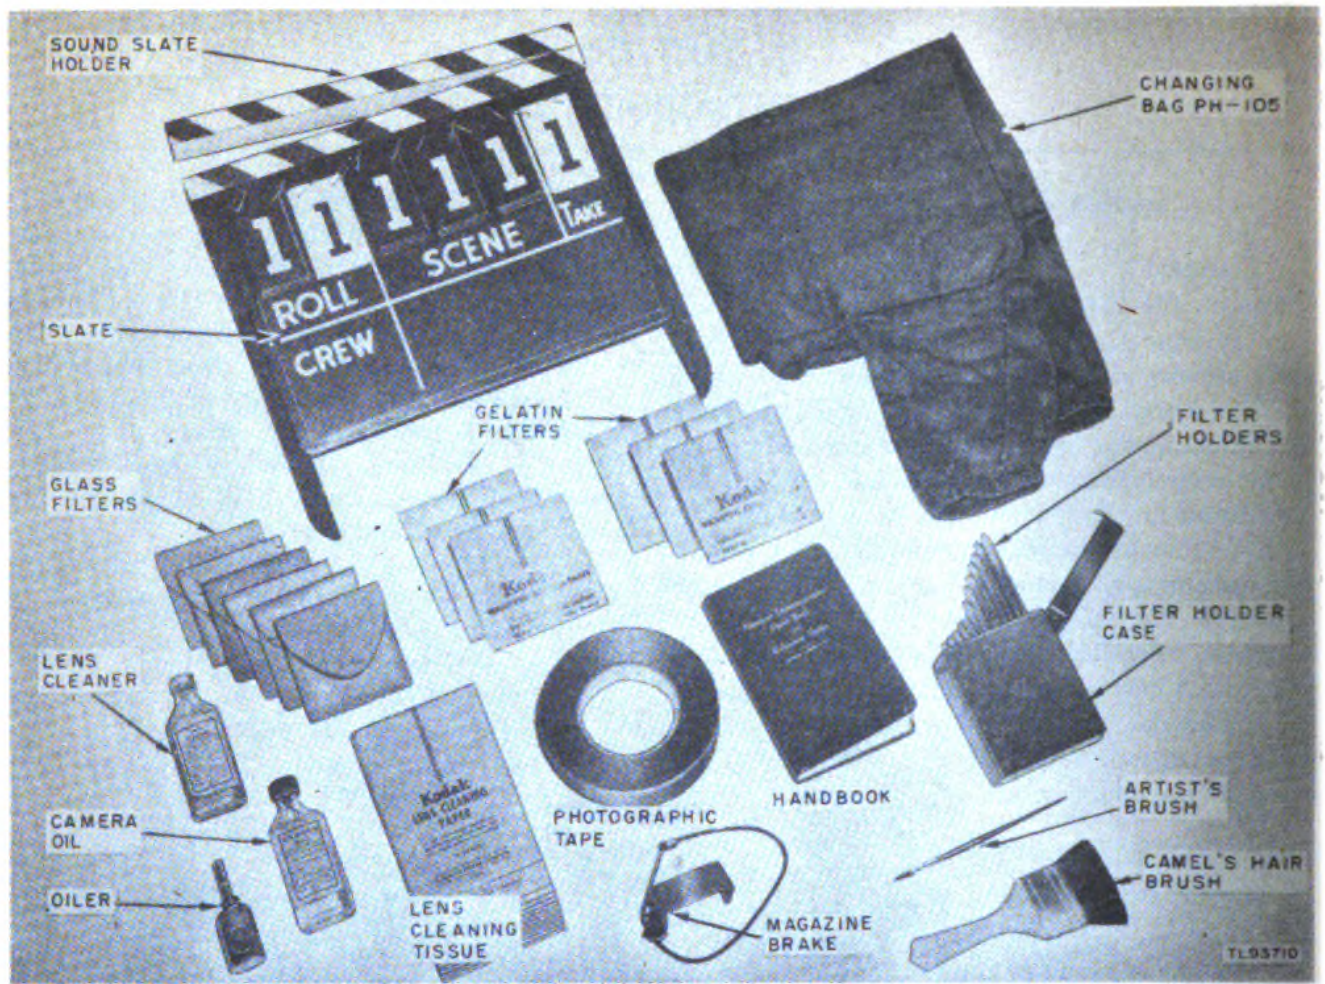

Figure 3. Components of Camera PH-274.
16. Filters and Filter Holders (fig. 3)